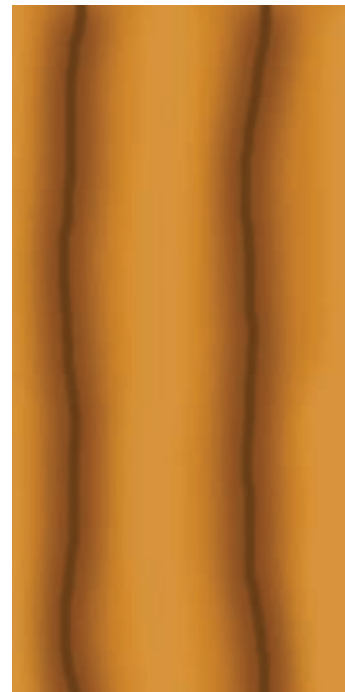

Figure 2.34
7. Double-click the new adjustment layer to access its settings and change the Brightness to +3 and the Contrast to +25. You should have something like Figure 2.34.